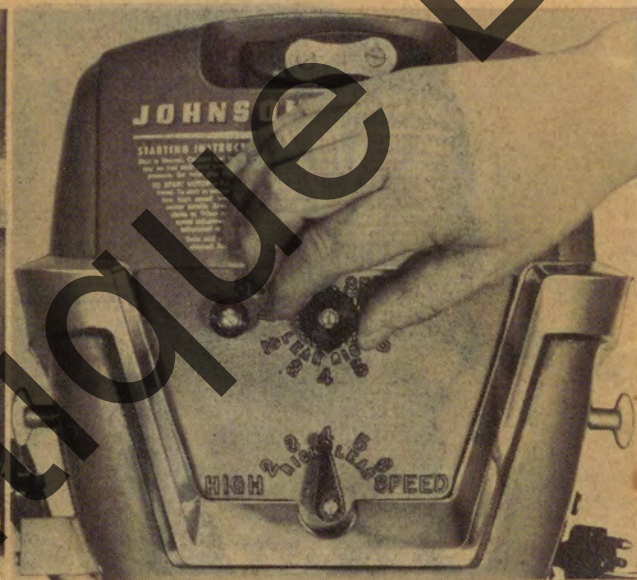

Figure 14
9. To retard motor speed, turn speed control grip toward position "slow." Adjust slow speed needle dial (Fig. 14) in slow position, by turning to right or left as required.
Loosen center screw to properly arrange dial, without disturbing position of the slow speed needle (this is **IMPORTANT**). Should dial tend towards binding on the needle shaft, it may become necessary to pull it free entirely to permit rearranging its position without affecting adjustment of the needle at this time. Arrange dial to position Number 4 on panel—see Fig. 14. Push dial back onto the shaft so that the face of the dial is flush with the end of the needle shaft. This will permit dial to engage limitation stop on